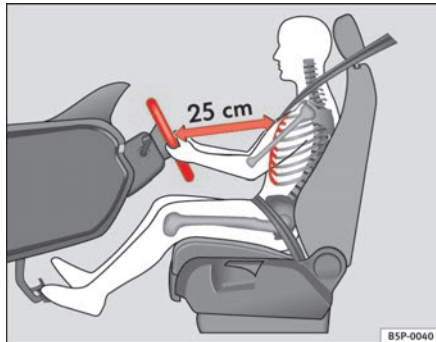

Fig. 1 The proper distance between driver and steering wheel
- Adjust the steering wheel so that there is a distance of at least 25 cm between the steering wheel and the centre of your chest ⇒ fig. 1.
- Adjust the driver's seat so that there is at least 25 cm distance between the centre of the chest and the centre of the steering wheel ⇒ page 10, fig. 1. If you are sitting nearer than 25 cm, the airbag system cannot protect you properly.